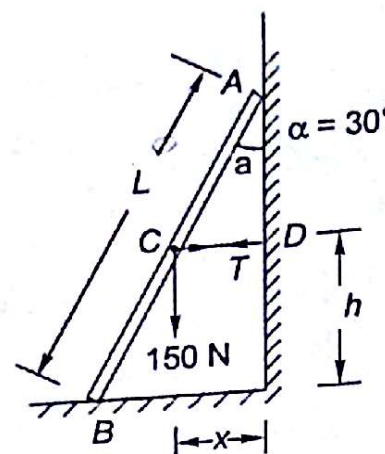

Fig. 9.31
9.10 A uniform ladder of length L and weight 150 N , rests on a smooth floor at B and against a smooth vertical wall at A as shown in Fig. 9.31. A horizontal rope CD prevents the ladder from slipping. Rope is connected